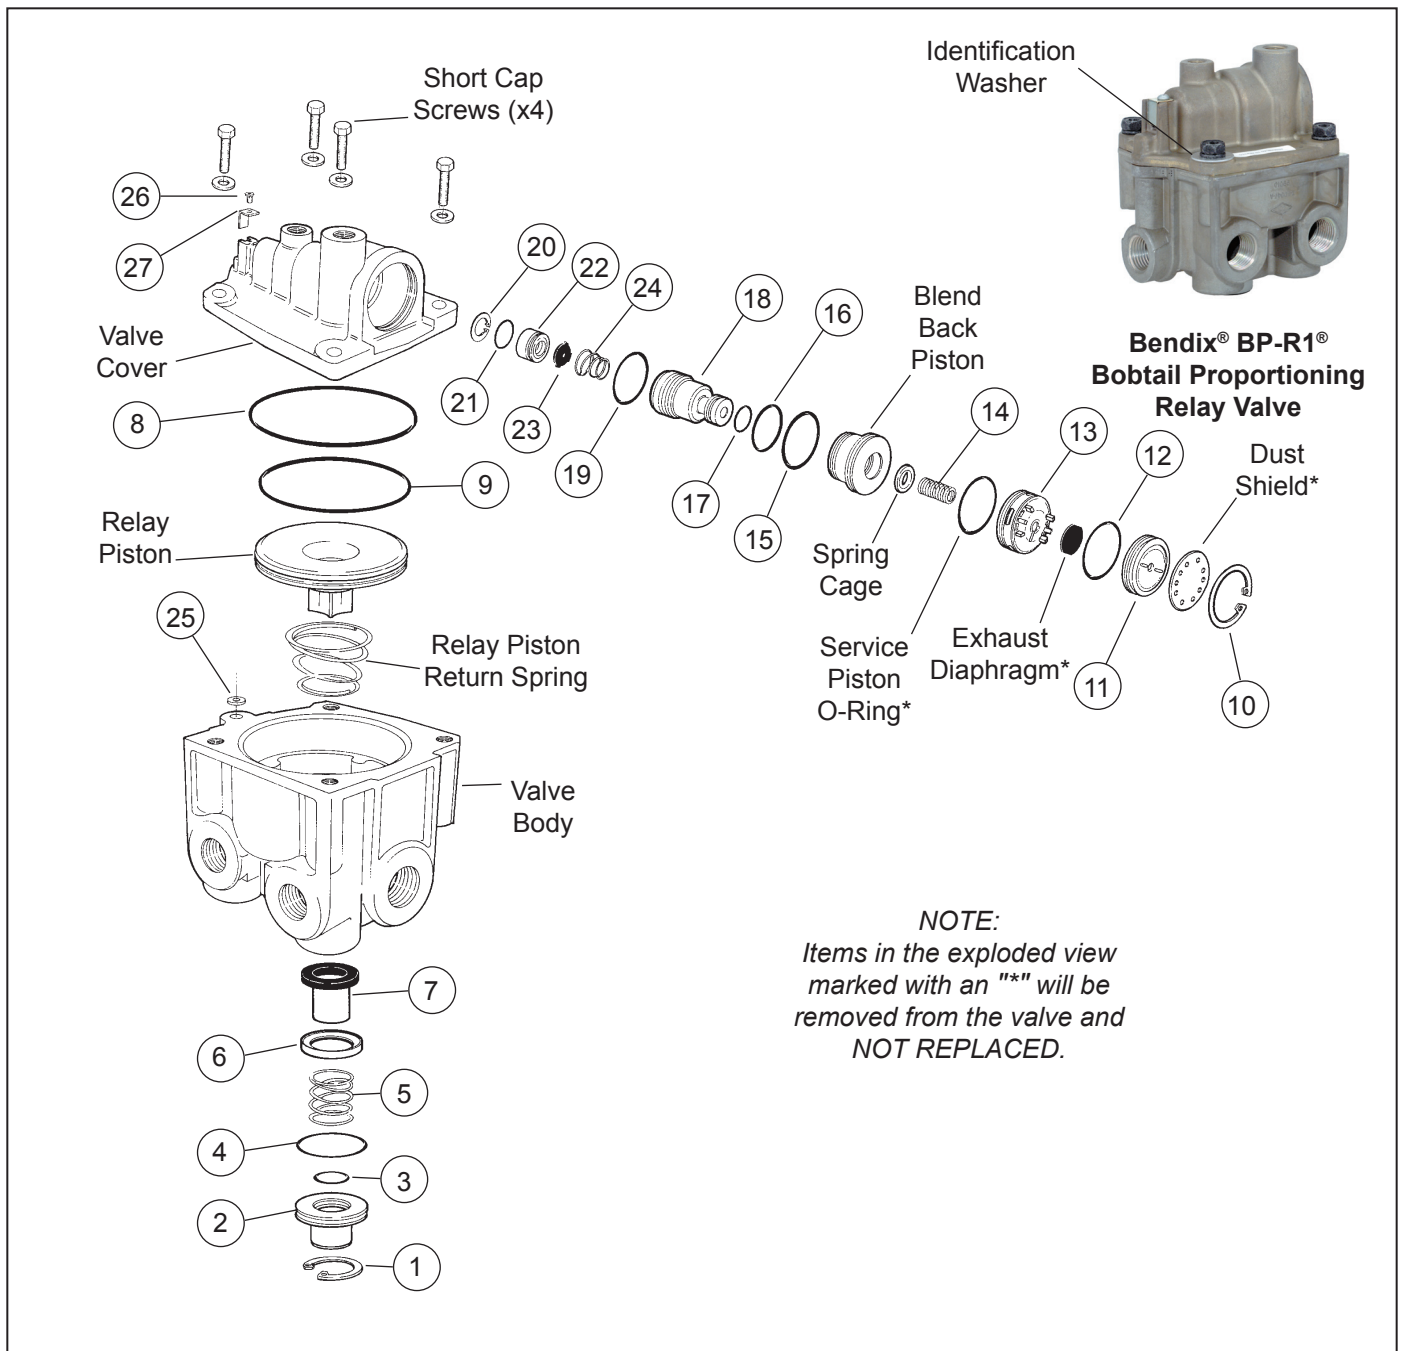
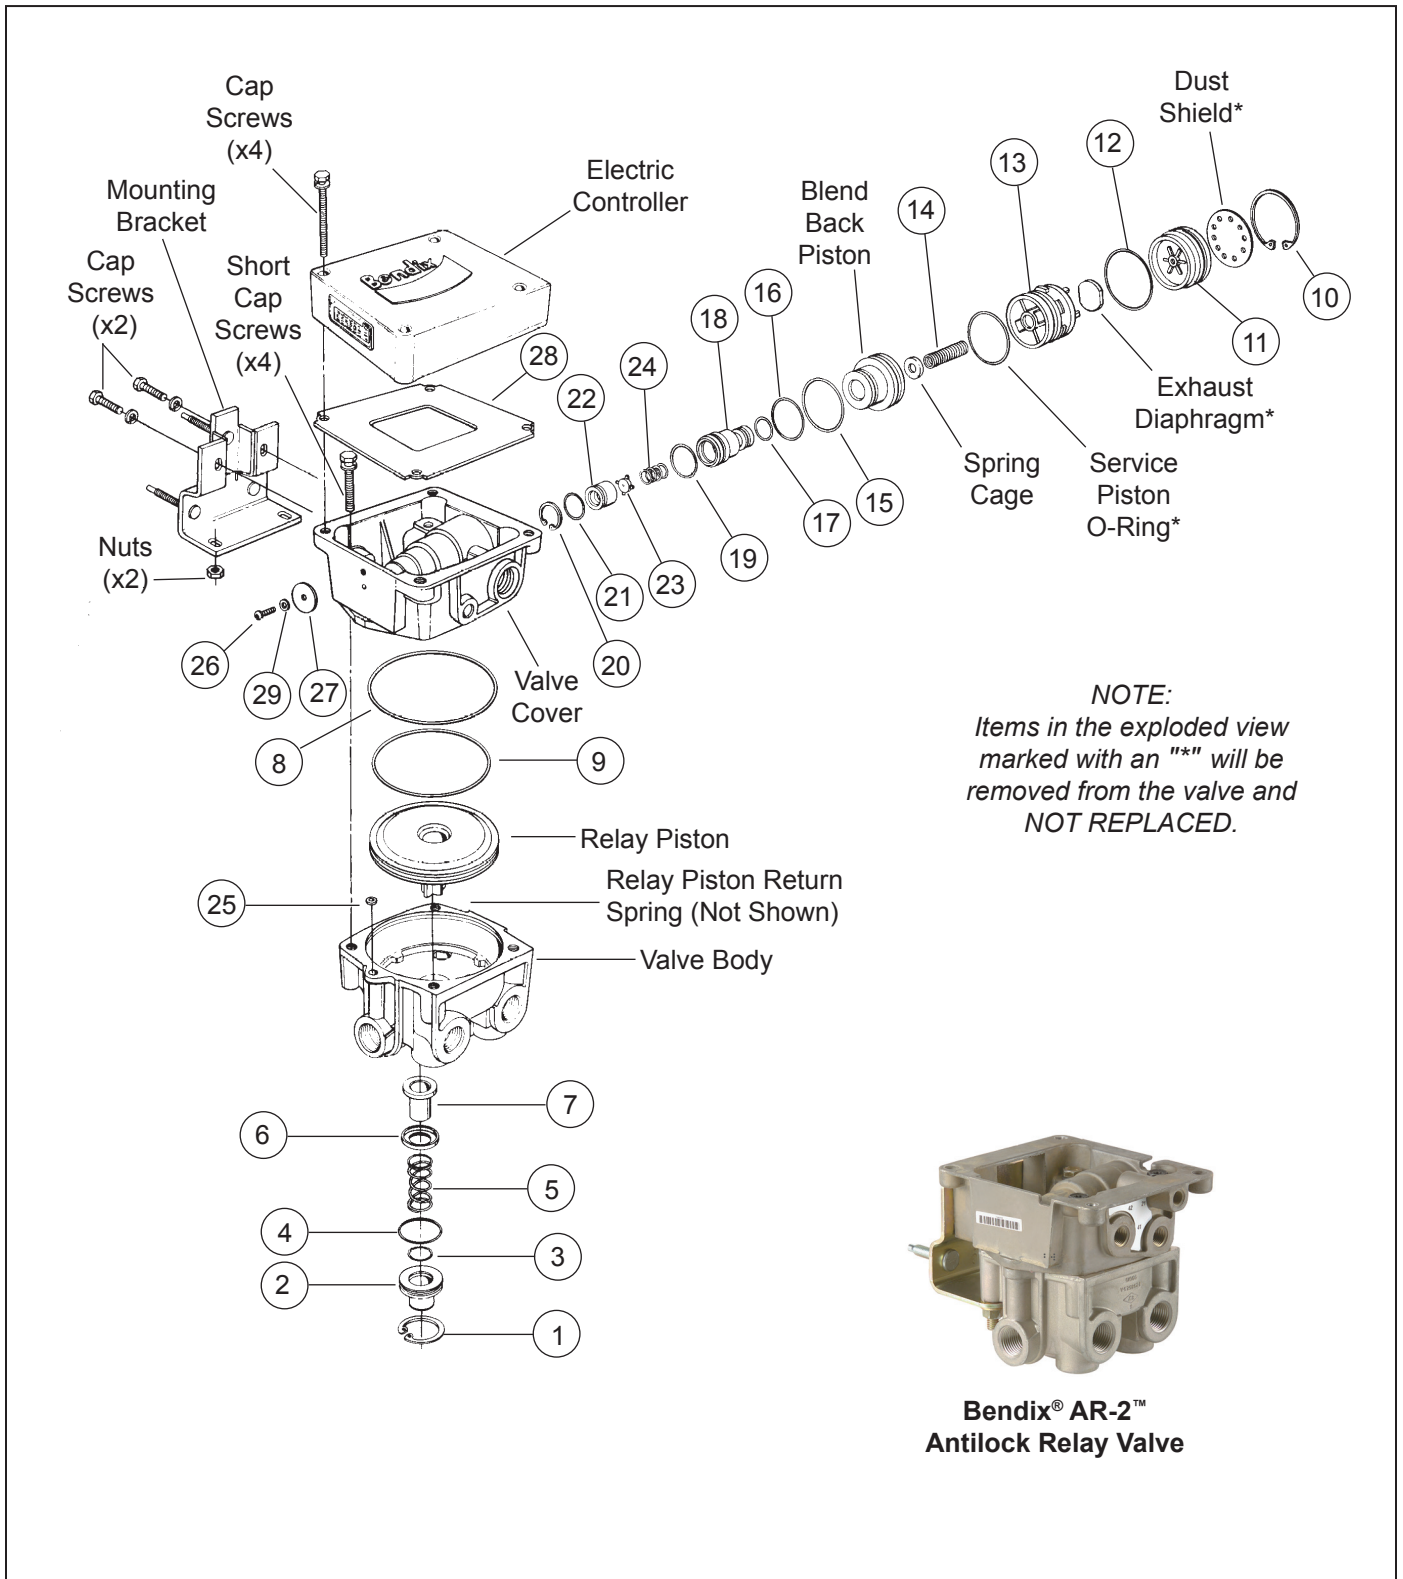

Figure 1 – Bendix® BP-R1® Bobtail Proportioning Relay Valve
Figure 2 – Bendix® AR-2™ Antilock Relay Valve
This kit is intended to service both the Bendix® BP-R1® Bobtail Proportioning Relay valve (Figure 1) and the Bendix® AR-2™ Antilock Relay valve (Figure 2). The current production version of both valves contain redesigned components in the proportioning valve section. OLDER VERSIONS OF EITHER VALVE WILL BE UPGRADED TO THE CURRENT LEVEL BY INSTALLING THIS KIT. **ALL** OLD REVISION PARTS **MUST BE DISCARDED** AND REPLACED BY THE COMPONENTS CONTAINED IN THIS KIT. Components contained in the older version valves will not be replaced.
3. When working with the Bendix® AR-2™ valve (see *Figure 2*), mark the relationship of the electronic controller to the cover.
1. While holding the exhaust cover (2), remove and discard the retaining ring (1) that secures it to the body.
2. Remove and discard the exhaust cover (2) along with both o-rings (3 & 4).
3. Remove and discard the valve spring (5), valve retainer (6), and the valve assembly (7) from the body.
4. If the valve being serviced is a Bendix® BP-R1® valve (see *Figure 1*) skip to step 6. Referring to *Figure 2*, remove and retain the two long cap screws and nuts and two short cap screws without nuts that secure the electronic controller to the cover, then separate and retain the controller, and gasket (28) from the cover.
7. Separate the cover from the body, then remove and discard the sealing ring (25) and o-ring (8).
9. Remove and discard the o-ring (9) from the relay piston.
10. Remove and discard the retaining ring, dust shield, if fitted, exhaust piston (11) with o-ring (12) and the exhaust diaphragm, if fitted, from the valve cover.
15. Remove and discard the exhaust cover screw (26) and the exhaust cover (27). *NOTE: If servicing the AR-2 valve (see *Figure 2*), remove and discard the plain washer (29).*